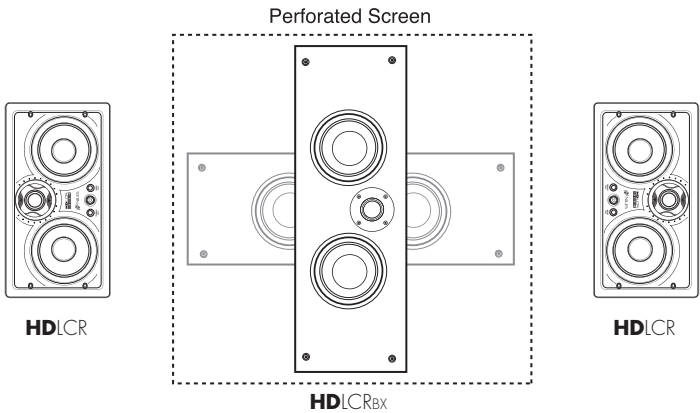

Figure 3. Recommended HDLCRBx center-channel placement behind a perforated projection screen.
- *For installations where a perforated projection screen will be used, place the HDLCRBx, either horizontally or vertically, behind the screen at ear level, as shown in **Figure 3**.*